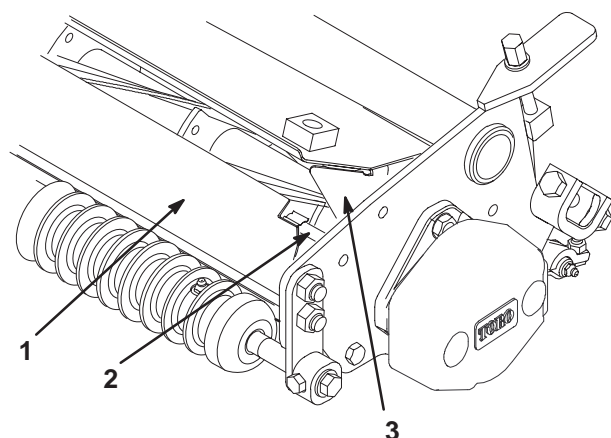

Figure 10
- A. Remove and discard the front shield assembly (Fig. 10). Also, remove and discard the shield mounting studs and fasteners secured to each cutting unit side plate.
- C. Bend the grass shield side deflectors outward until they are flush with the cutting unit side plates (Fig. 10).